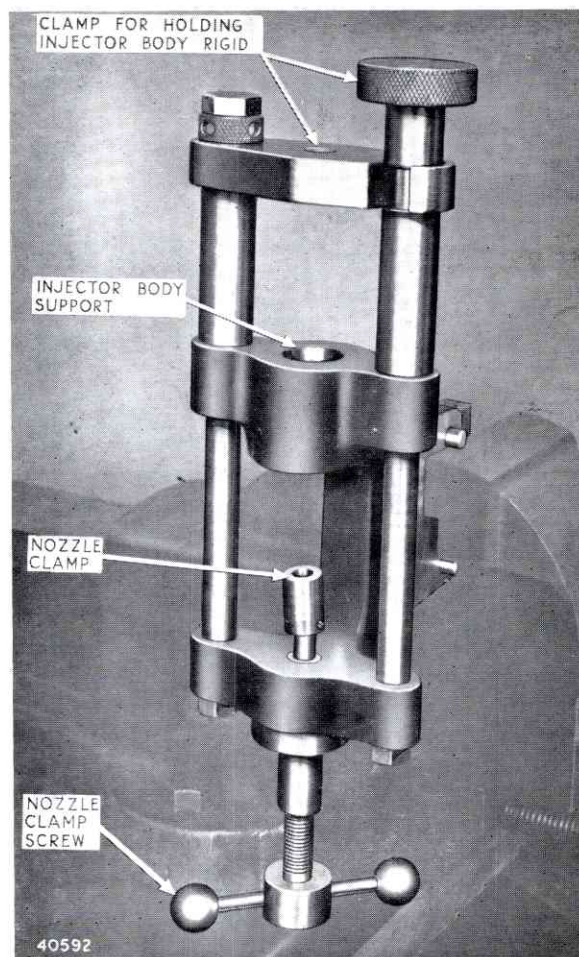

FIG. 51. NOZZLE AND NEEDLE ALIGNING JIG
2. Fit the injector body in the jig (Fig. 51).